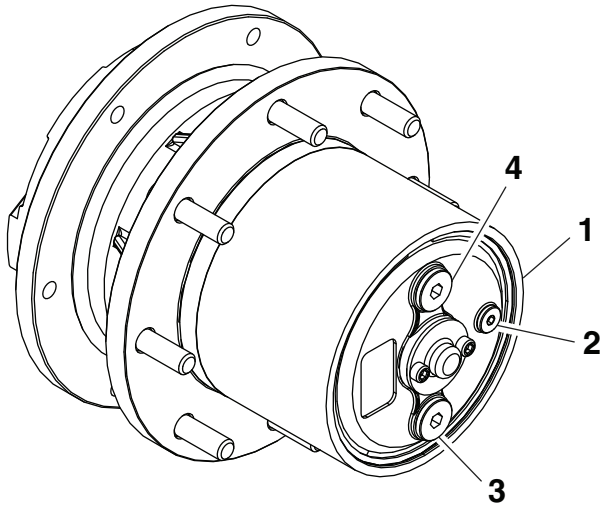

Figure 57
4. Remove the wheel and orient the gearbox with the drain port on the bottom and fill port on top (Figure 57).
5. Place a drain pan under each check port (Figure 57).
Remove the drain plug, check plug, and fill plug to allow the fluid drain (Figure 57).
6. Install the drain plug and add oil until it comes out of the check port (Figure 57).